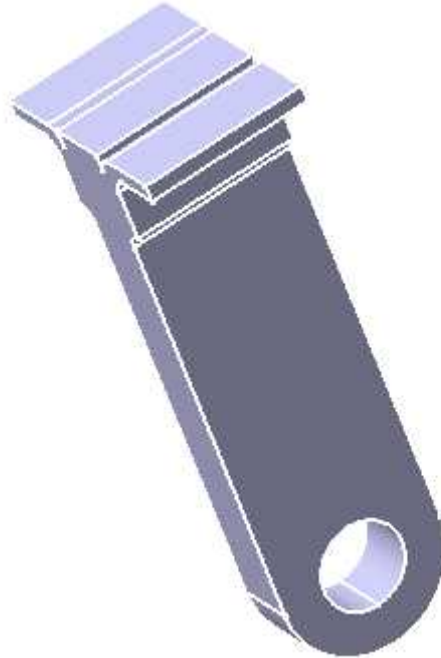

Figure 1.11 Vertical Link
- *Vertical Link*: it will be manufactured from rigid metal in order to carry the box with its contained parts, and connected by its end with the shaft by a rolling bearing (see figure 1.11).